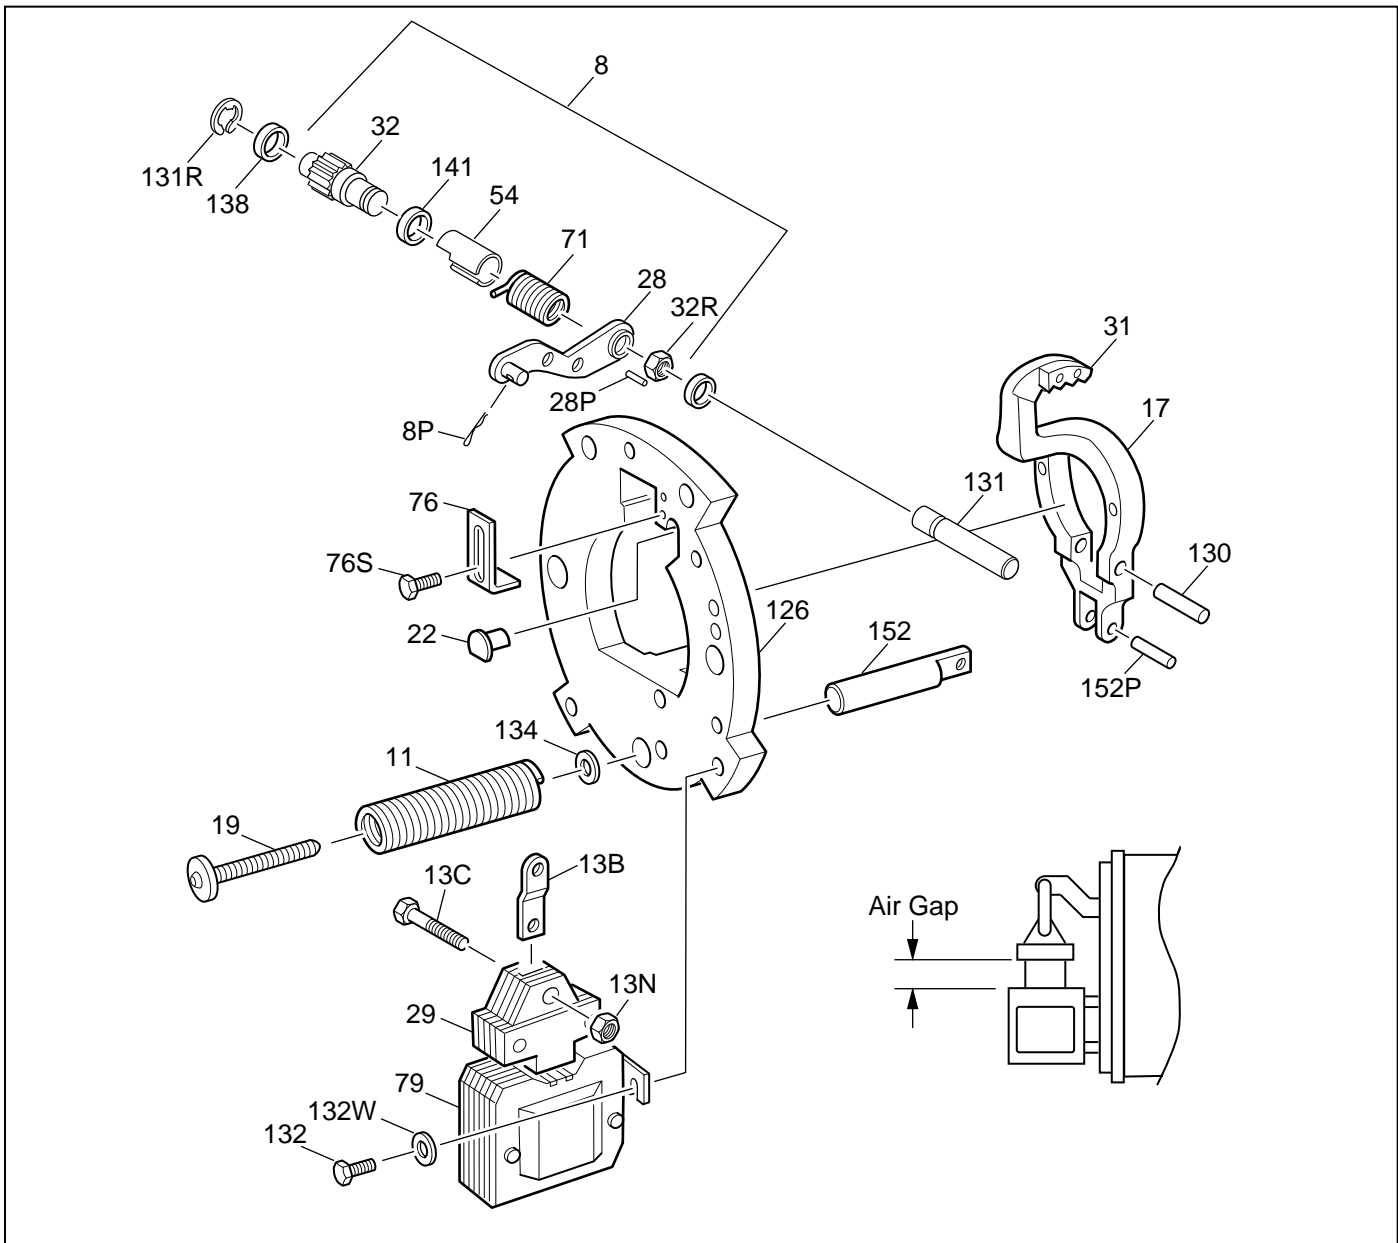

Figure 3.14 Self-Adjusting Brake Components
6. Position hub (16) and key (by customer) on the motor shaft so outboard face of hub will protrude approximately 1/32 inch [.8 mm] to 1/16 inch [1.6 mm] beyond face of last outboard friction disc. (Position may be determined by assembling friction disc(s) and stationary disc(s) onto hub, noting hub position, and removing disc(s). Torque set screw (16S) as follows: 5/16 inch [8 mm] diameter - 13 ft-lb [17.6 N•m], 3/8 inch [9.5 mm] diameter - 24 ft-lb [32.5 N•m] and 1/2 inch [13 mm] diameter - 52 ft-lb [70.5 N•m]. If brake utilizes vertical mounting springs, do not assemble them when measuring for hub location.
7. Reassemble friction disc (be sure friction discs slide freely), spring (if vertical), stationary discs, and pressure plate in correct sequence and position. All parts must slide freely. The universal mounting pressure plate presently used has three tapered reliefs on outboard face. However, some older brakes used a pressure plate with a single tapered relief marked top, which must be installed with relief facing manual release rod (146).
8. Mount support plate assembly, torque screws to 50 in-lbs [5.6 N•m] in endplate. Conical spring washer is installed under the screw head. Flat washer is used under the conical spring washer only with aluminum support plate. Be sure that assembly is mounted with the solenoid in a vertical position (plunger above frame) as shown when brake is horizontal. If release rod (146) is not in manual release position and has allowed the mechanism to over-adjust, it will have to be reset before
mounting support plate. In this case, the lever arm (17) throat will be near, or touching, the pinion (32) teeth. Refer to Figure 3.14 and *Self-Adjust Maintenance*. Loosen pressure spring cap screw (19) until pressure spring (11) is free, mount support plate assembly to endplate and retighten spring cap screw until snug. Do not over-tighten! Torque to a maximum of 8 ft-lbs [10.8 N•m].